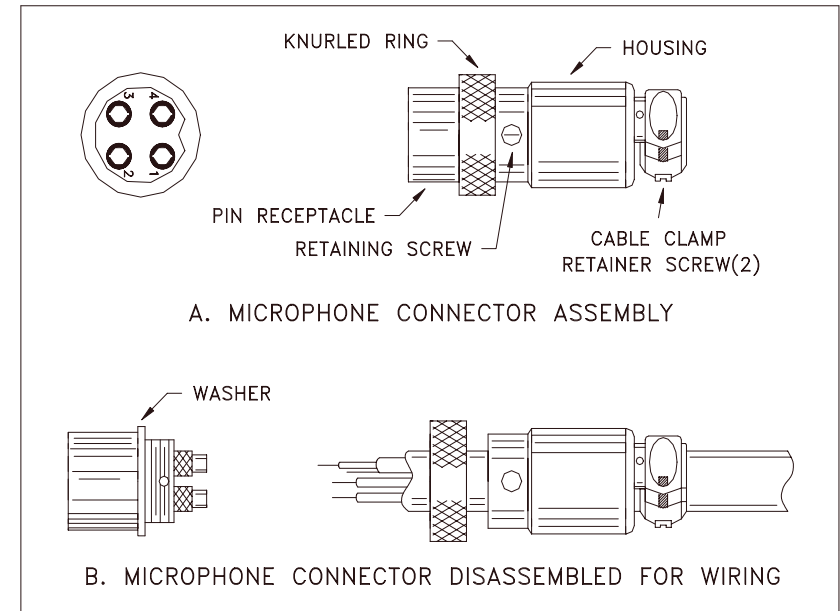

Fig. 2 Microphone plug wiring
4. Feed the microphone cable through the housing, knurled ring and washer as shown Figure 2.
Be sure that the housing and the knurled ring of Figure 2 are pushed back onto the microphone cable before starting to solder. If the washer is not captive to the pin receptacle body, make sure that it is placed on the threaded portion of the pin receptacle body before soldering.